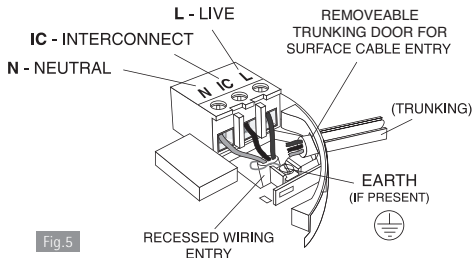

Fig.5
IC: Interconnect - see figures 5 and 6 and further information in Section 2.7.
4. If the mains wires are recessed, bring the wires through the rear hole in the mounting plate as shown in Figure 5.
(a) position the mounting plate so the cable trunking is as shown in Figure 5.